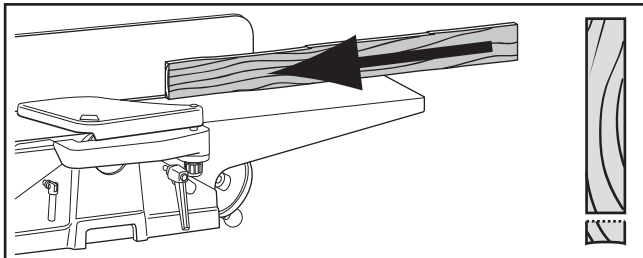

Figure 23. Edge jointing on a jointer.
1. Edge joint the concave edge of the 2x4 flat on a jointer, as shown in **Figure 23**.